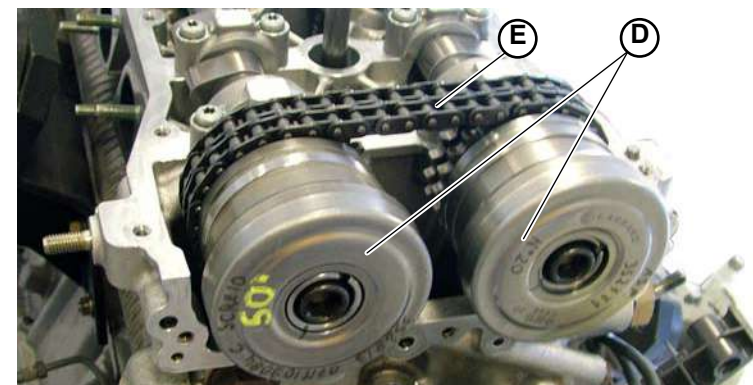

Fig.7
6. Install the two phase transformers (**D-Fig.7**) with the chain (**E-Fig.7**) fitted on the camshafts.
11. Tighten the two variable valve timing mechanisms (**D-Fig.7**) completely and check the timing again (**010902**).